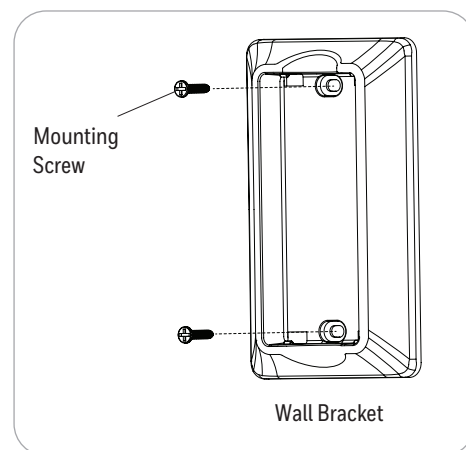

Figure 6.9
9. If desired, the wall bracket can be attached to a wall using the mounting screws (Figure 6.9).